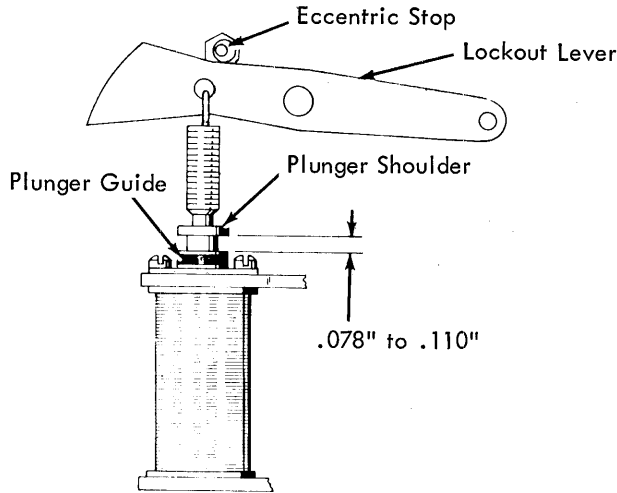

FIGURE 56. Eccentric Stop
- c. Position the solenoid directly beneath the lockout lever (Fig. 56).
2. Eccentric Stop (Fig. 56) - Adjust (lockout lever resting against the eccentric stop) so that the plunger shoulder clears the plunger guide by .078" to .110".
This adjustment insures adequate motion to lock or unlock the keyboard depending upon the lockout lever which may be installed as shown in Figure 56 or inverted.